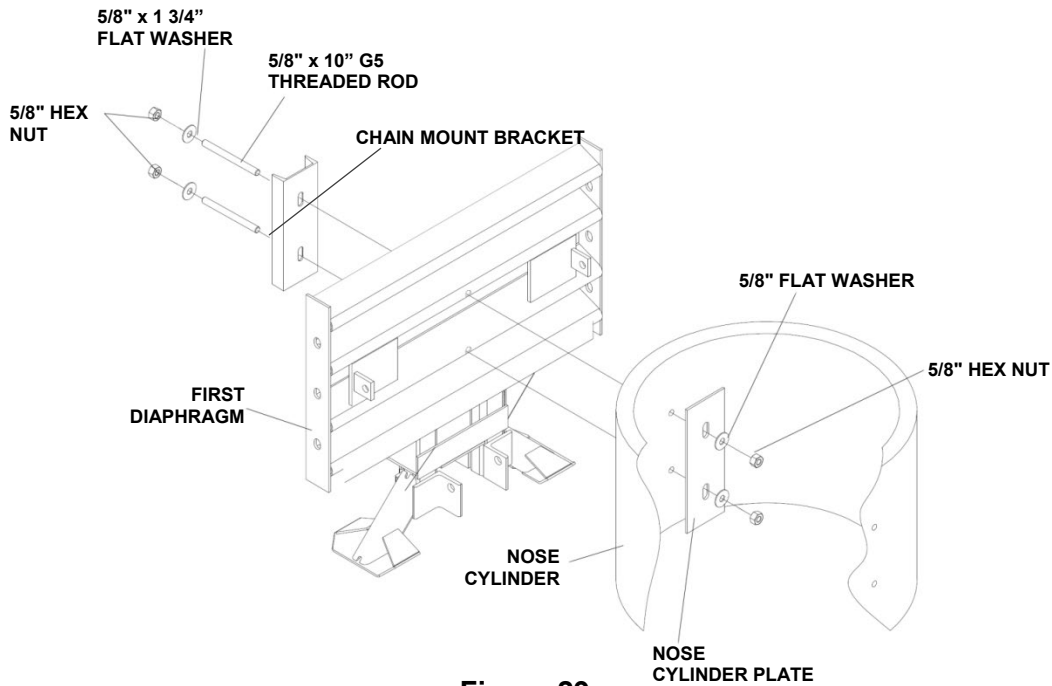

Figure 29
Attach the Nose Cylinder using two (2) 5/8" x 10" long threaded rods through the Nose Cylinder Plate, Nose Cylinder, Diaphragm, and Chain Mount Bracket (Figure 29). Tighten each 5/8" threaded rod with flat washers and nuts to 20 ft-lbf [27 N·m] minimum, 25 ft-lbf [34 N·m] maximum.